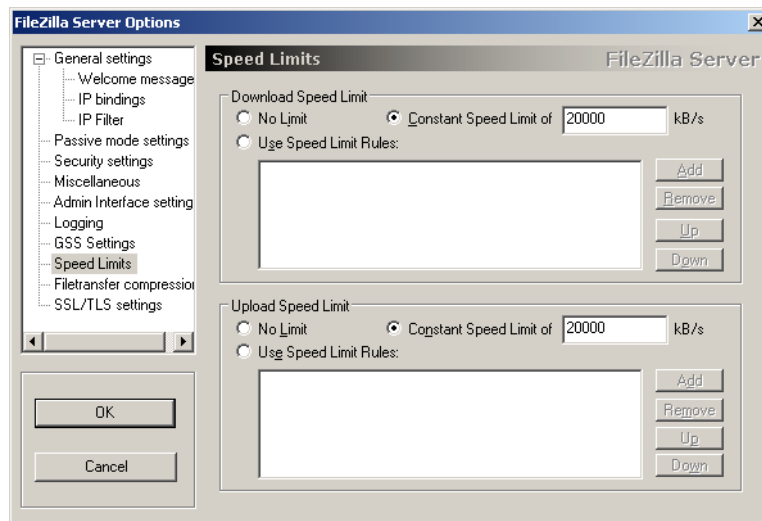

Figure 3-16: Speed Limits Dialog
- In both the Download Speed Limit and Upload Speed Limit group boxes, click the Constant Speed Limit radio button and enter 20000 (see note) in the edit box to the right as shown in Figure 3-16.